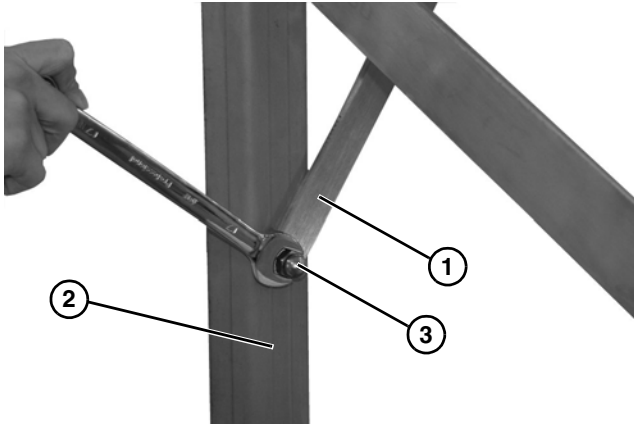

Figure 11
1. Install the end of brace with non-threaded hole (**Figure 11, item 1**) onto the inside of the stand (**Figure 11, item 2**).
2. Secure the brace with a hex head bolt and nut (**Figure 11, item 3**).